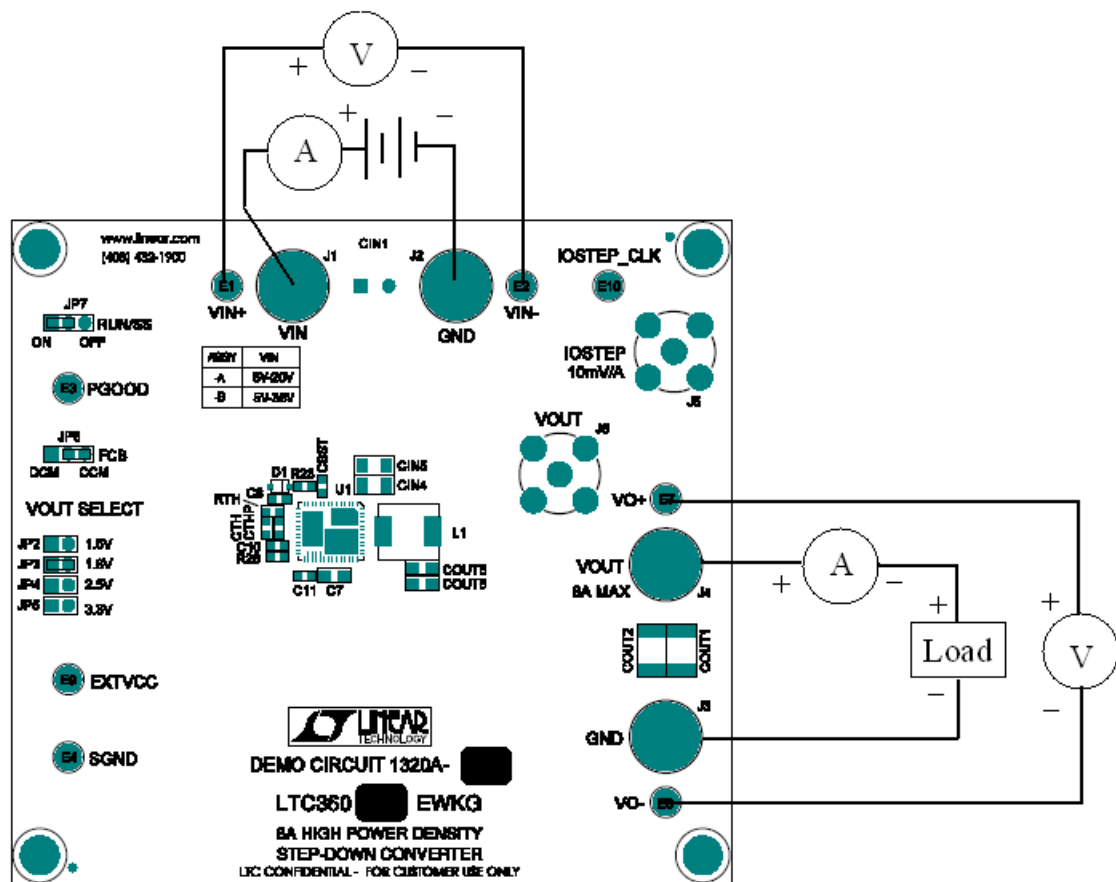

Figure 1. Proper Measurement Equipment Setup
Demonstration circuit 1320 is easy to set up to evaluate the performance of the LTC3608/9EWKG. Refer to **Figure 1 for proper measurement equipment setup** and follow the procedure below:
1. With power off, connect the input power supply to VIN and GND. Connect the load between VOUT1, VOUT2 and GND. Preset the load current at 0A (minimum). Refer to Figure 1 for correct test set up. The RUN/SS1 and RUN/SS2 jumpers should be at "on" position.